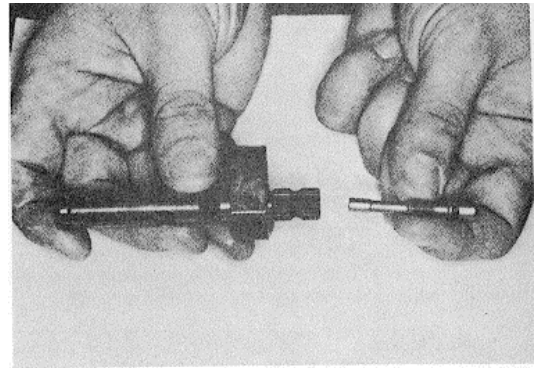

Fig. 5-101, F5307. Installing fuel adjusting screw in throttle shaft
2. Insert fuel adjusting screw into throttle shaft about 6 turns. Do not- restrict throttle shaft fuel port. Fig. 5-101.